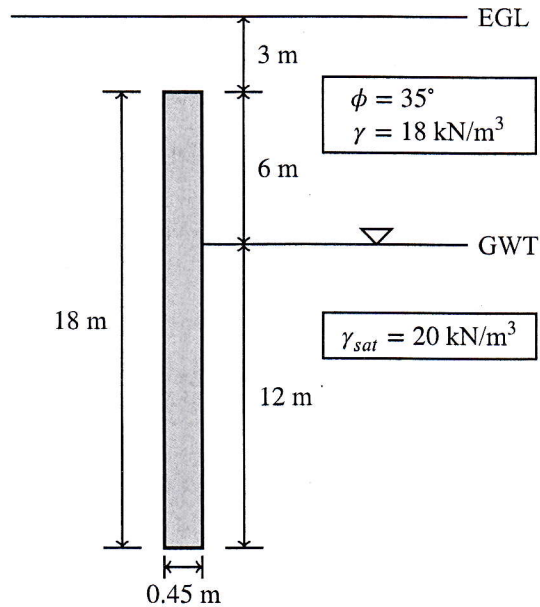

Figure 4: for QUES 6(c)
6. (a) What are the advantages and disadvantages of cast in situ piles. (3)
- (b) Describe the differences between a point bearing pile and a friction pile. What do you understand by a compaction pile? (4)
- (c) An individual cast in situ concrete pile in sand having a diameter (D) of 0.45 m is shown in the following figure (Fig. 4). Calculate the Ultimate Bearing Capacity (Q_u) of the pile. Assume $\delta = 0.8\phi$ and $K = 1 - \sin \phi$. (9 $\frac{2}{3}$)